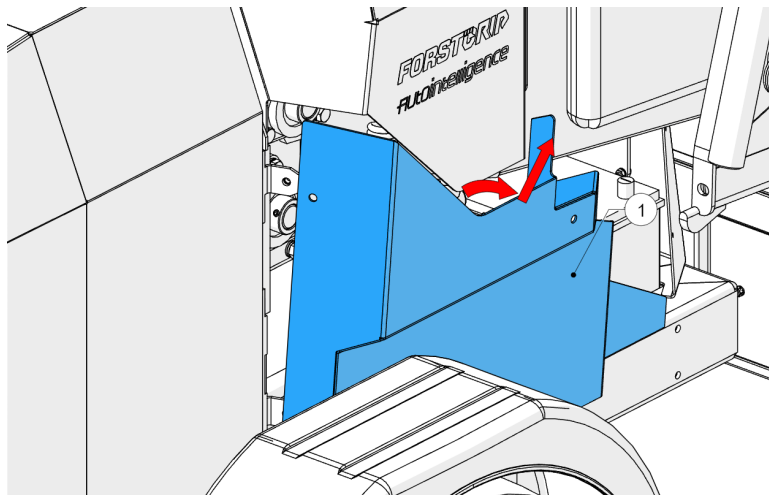

Figure 55 - Remove side panel
4. Remove the side panel (1, Figure 55).